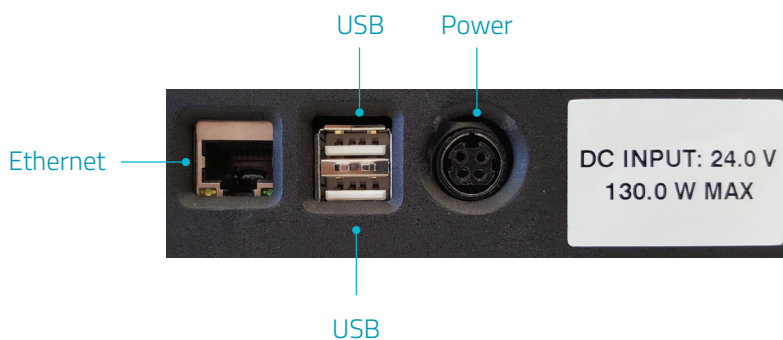

Figure 3: Connection Ports on Rear Panel
2. Connect the power supply to the power port (see Figure 3: Connection Ports on Rear Panel.)